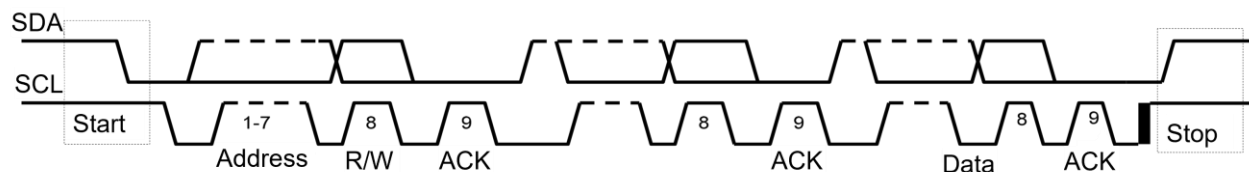

Figure 9: Complete Data Transfer
A slave cannot receive or transmit a complete byte of data while performing other tasks, but it can hold the SCL line low to force the master into a wait state (clock stretching). Then, when the slave is ready, data transfer continues, and the clock line (SCL) is released. Figure 9 shows a complete data transfer.
After the start command, a 7-bit slave address is sent, followed by the read/write (R/W) bit. A 0 represents a write transmission (W), while a 1 indicates a read request (R). Figure 9 shows a complete data transfer.